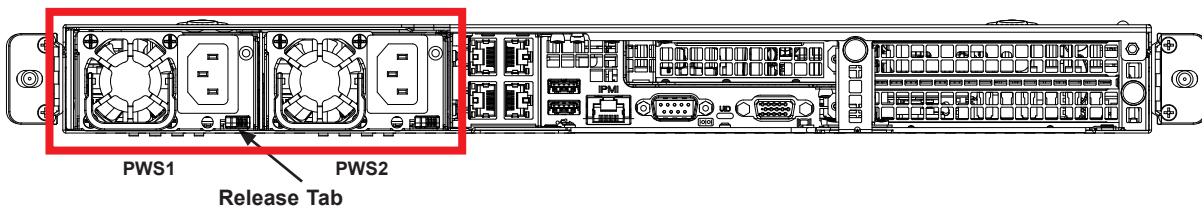

Figure 3-13. Replacing the Power Supply
1. Remove the left WIO riser card as described in Figure 3-13.